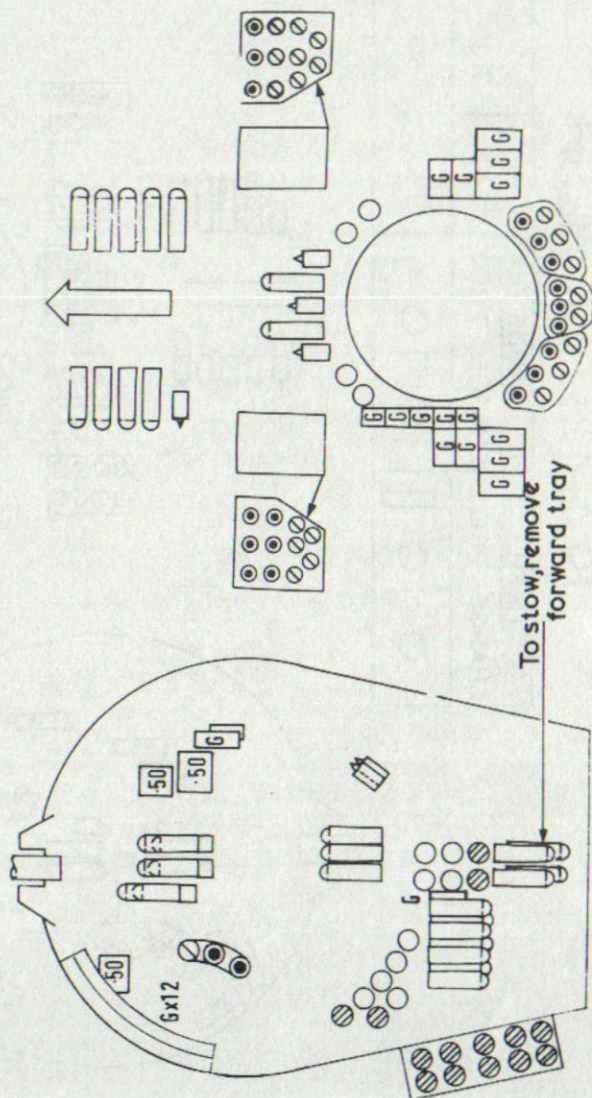

Fig 91 – Stowage of ammunition Mk 5 vehicle
- (1) 20 APDS, 44 HESH, 31 boxes of 7-62-mm, 3 boxes of .50-in RG. This loading will mean a lack of APDS in the turret, as 10 APDS projectiles will have to be stowed in the external bin. (See Fig 91).